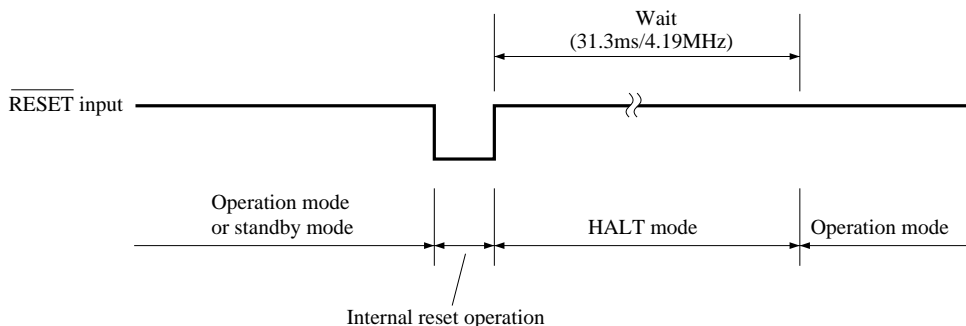

Fig. 8-1 Reset Operation by $\overline{\text{RESET}}$ Input
When the $\overline{\text{RESET}}$ signal is input, the μPD75008(A) is reset and each hardware is initialized as indicated in Table 8-1. Fig. 8-1 shows the reset operation timing.